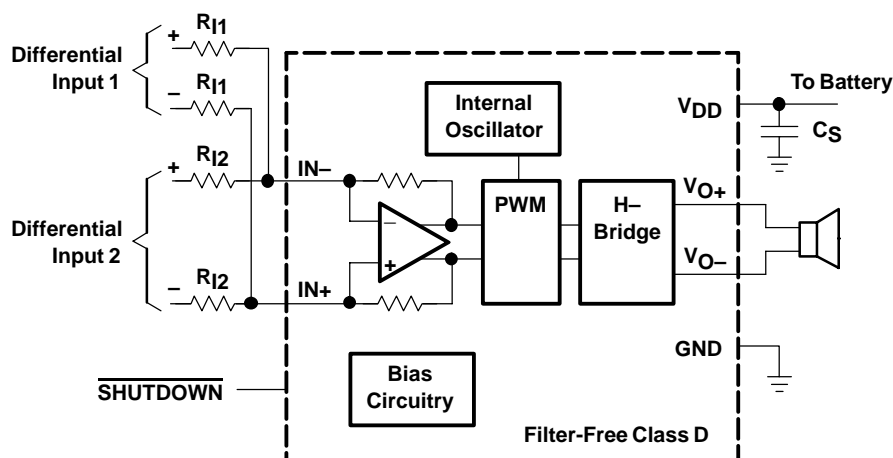

Figure 29. Application Schematic With TPA2005D1 Summing Two Differential Inputs
Two extra resistors are needed for summing differential signals (a total of 5 components). The gain for each input source can be set independently (see equations (4) and (5), and Figure 29).